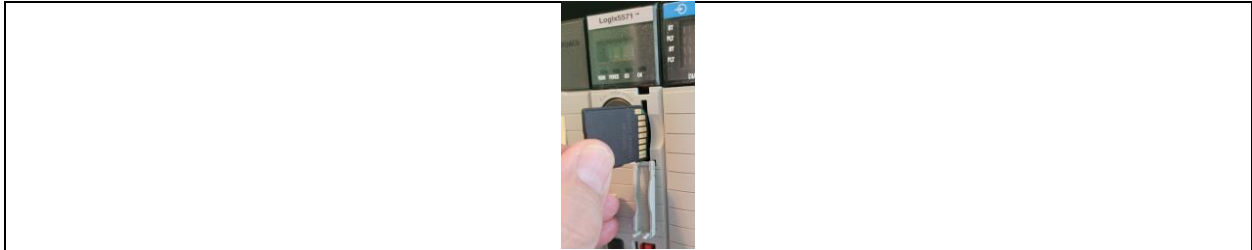

Figure 4. Removing/inserting the SD module in the controller.
- b. Open the cover for the SD card, then remove the SD card (see Figure 4).